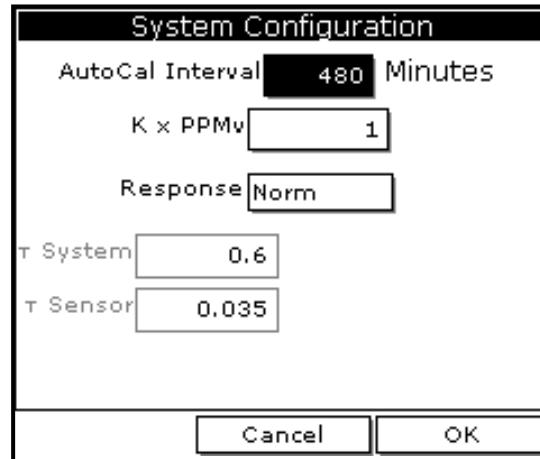

Figure 29: System Configuration Window
3. Use the arrow key to scroll to System and press **[ENTER]**. A screen similar to *Figure 29 on page 34* appears.